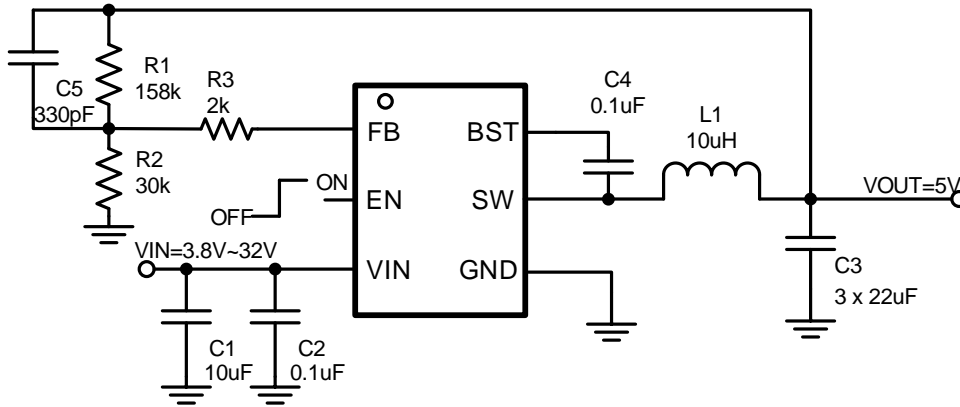

Figure 15. 24V Input, 5V/3A Output
The SCT2330 features external programmable output voltage by using a resistor divider network R1 and R2 as shown in the typical application circuit Figure15. Use equation (11) to calculate the resistor divider values.